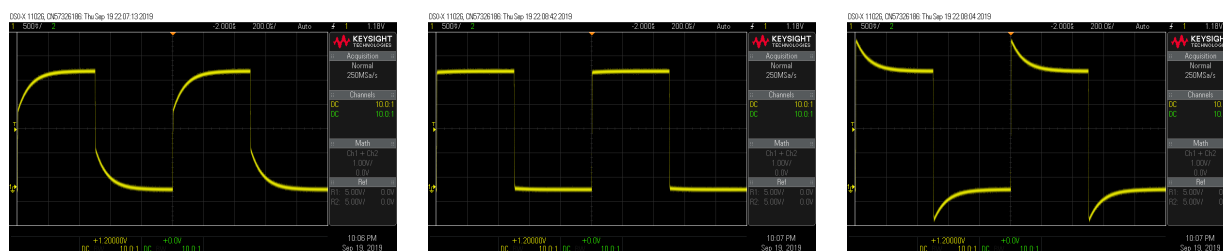

Figure 5: Square waves from probes with different compensations. From left to right: over-compensated, well-compensated, under-compensated.
4. Measure two instances of the time constant, τ —one when the oscilloscope probe is fully under-compensated and one when the oscilloscope probe is full over-compensated. (The oscilloscope waveforms should appear similar to those shown in Fig. 5.)
As you can see in Figure 5, when compensating the probe using the oscilloscope's reference signal, you can have either overshoot or undershoot on the square wave. You can attach the probe tip to the probe compensation terminal and connect the probe to an input of the scope. Viewing the square wave reference signal, make the proper adjustments on the probe